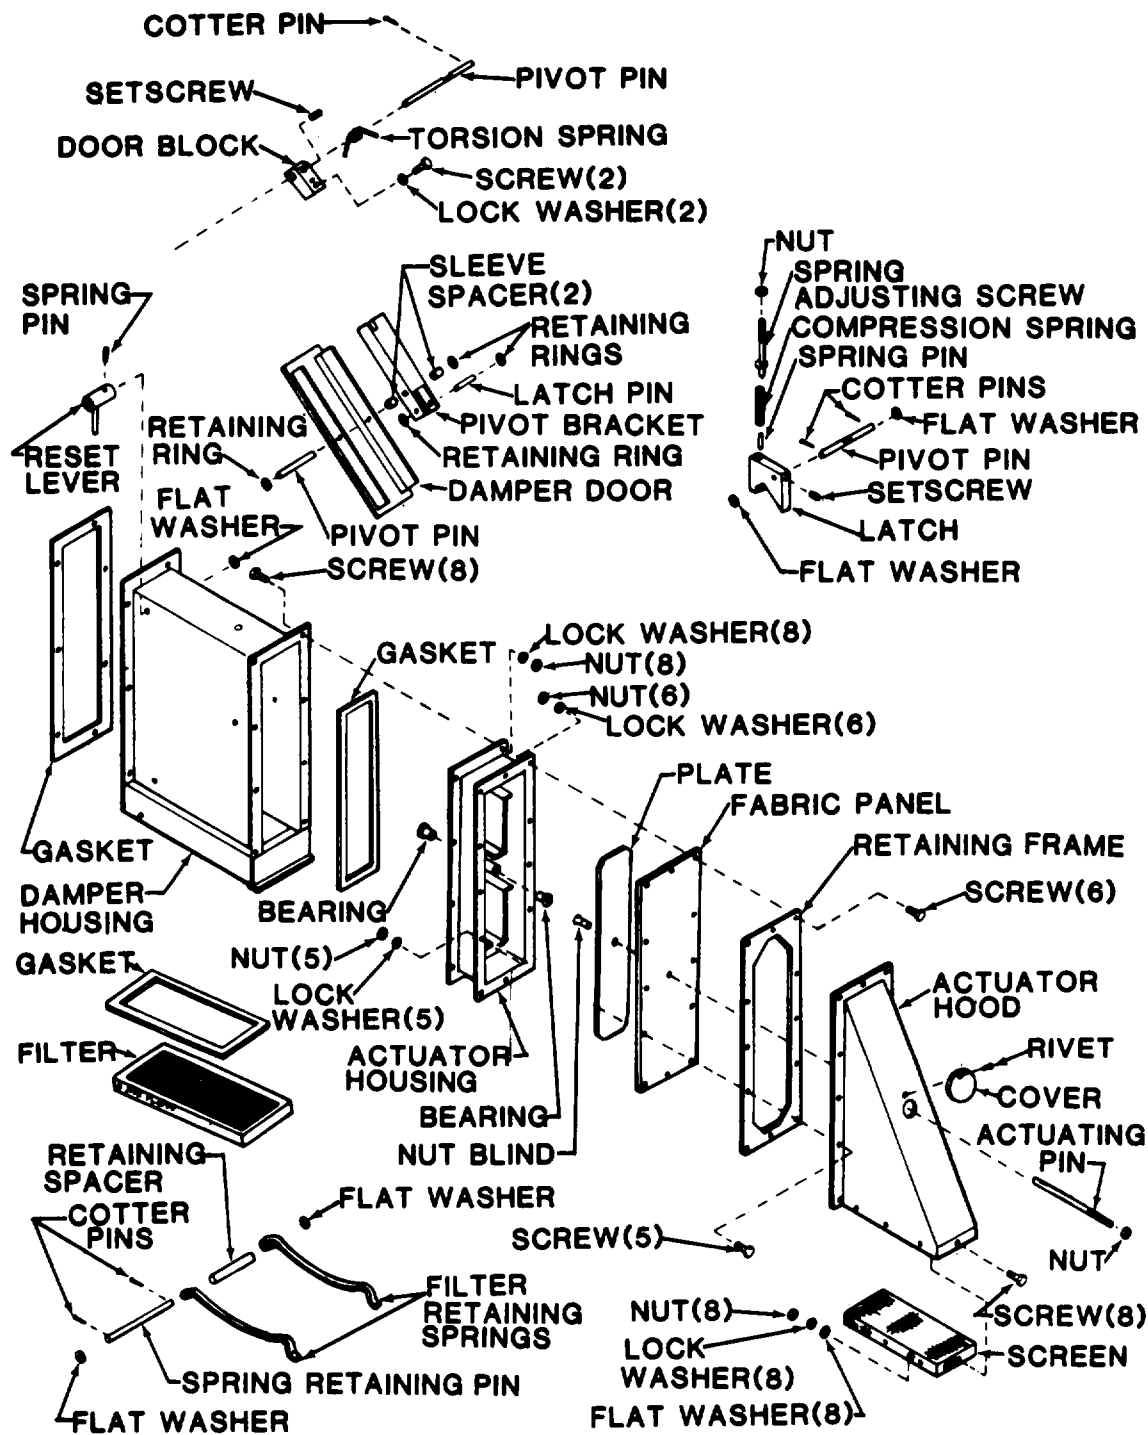

Figure 5-35. Blast Damper
a. Inspection-blast damper. (See fig. 5-35 for identification of parts.)
(1) Check that filter is clean and in place. Clean if dirty. Replace if damaged or missing.
(2) Check that screen is clean and free of all blockages.
(3) Check that damper is in open position. Handle on reset arm indicates the damper position. When the damper is closed, the handle is pointing down. When it is open, it is turned out away from the unit about 45°x.
(4) Check that all gaskets are in place, seal properly, and are in good condition.
(5) Check that fabric panel located between the actuator hood and the actuator housing is in place and in good condition.
e. See figure 5-35 for identification of blast damper parts and disassembly/reassembly information.